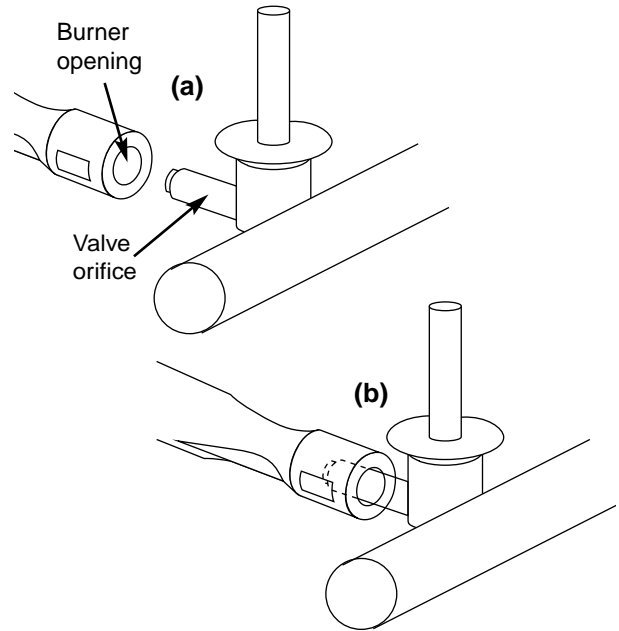

Figure 15
**⚠CAUTION: The burner openings must be positioned properly over the valve orifices. Figure 15 (a).**
Check proper assembly before fastening manifold in place. Figure 15 (b).